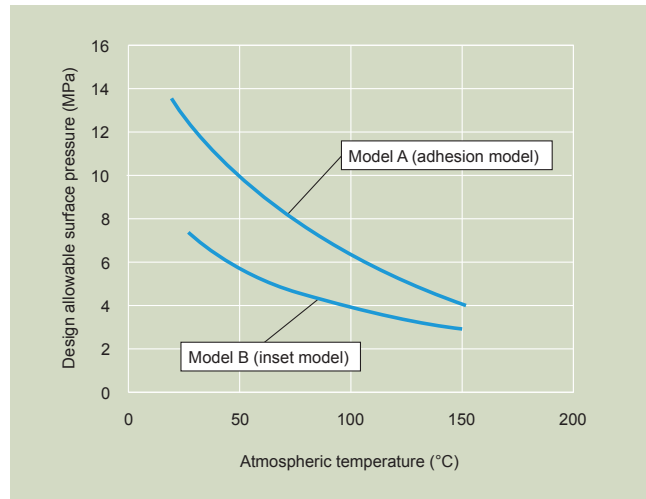

Figure 1 Temperature and design allowable surface pressure
Note : (1) See Figure 1 on page 2 for the design allowable surface pressure over 25°C.
Set the PTFE contact area to be less than or equal to the design allowable surface pressure (see Figure 1).